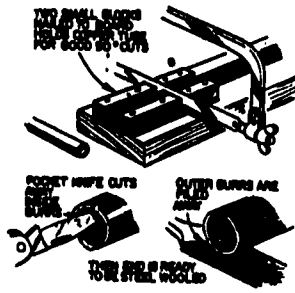
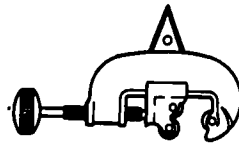

Fig 1-92. Cutting copper tubing with a hacksaw.
Fig 1-93. Tubing cutter with reamer.
As a Marine plumber, there are two ways you can cut copper tubing (flexible or rigid). You can use either the hacksaw (fig 1-92) or tubing cutter (fig 1-93).
Hacksaw: An ordinary hacksaw can be used in the cutting of copper tubing. The hacksaw is the same type used to cut cast iron pipe in the previous chapter. To make a straight cut (90°) on the tubing face, it is recommended that you use a jig to hold the tubing and to align the hacksaw. Figure 1-92 shows a simple jig that can be made to cut tubing. After the cut is made, the small burrs (ragged edges) left inside the tubing should be trimmed with a pocketknife (fig 1-92). The outer burrs should be removed with a file (fig 1-92) and steel wool should be used to clean the tubing before joining.
- o **Tubing cutter:** Another tool that the Marine plumber can use to cut copper tubing is the tubing cutter. Figure 1-93 shows a tubing cutter with attached reamer used to ream the burrs or ragged edges from the cut end of the tubing after cutting.